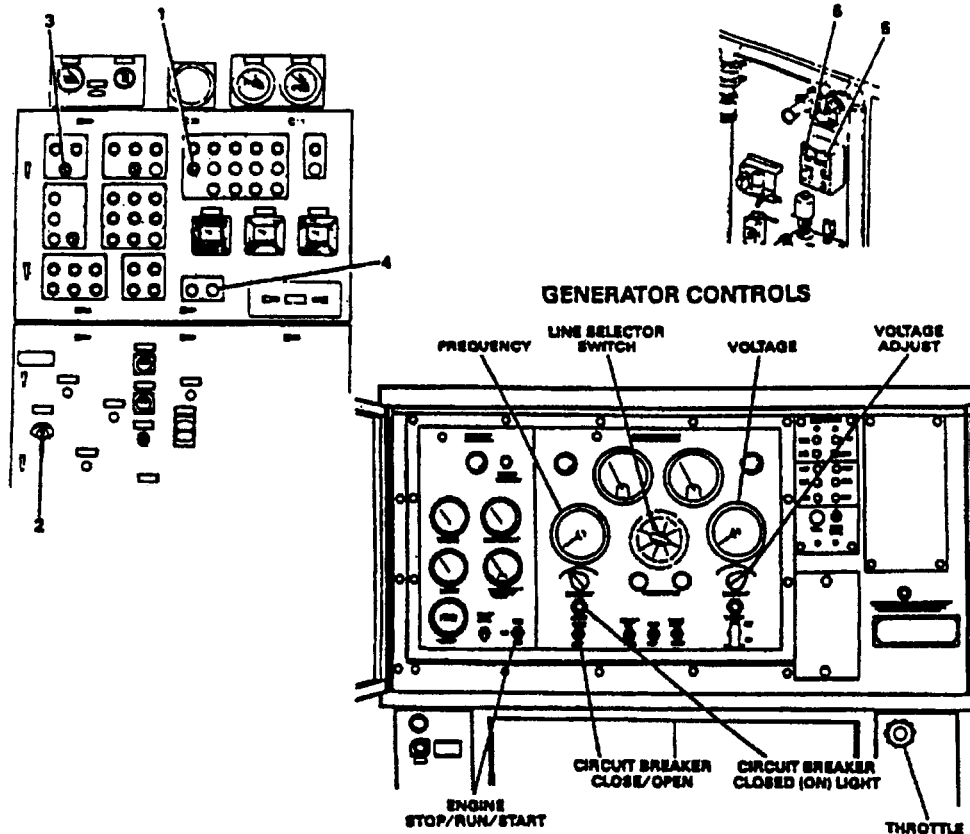
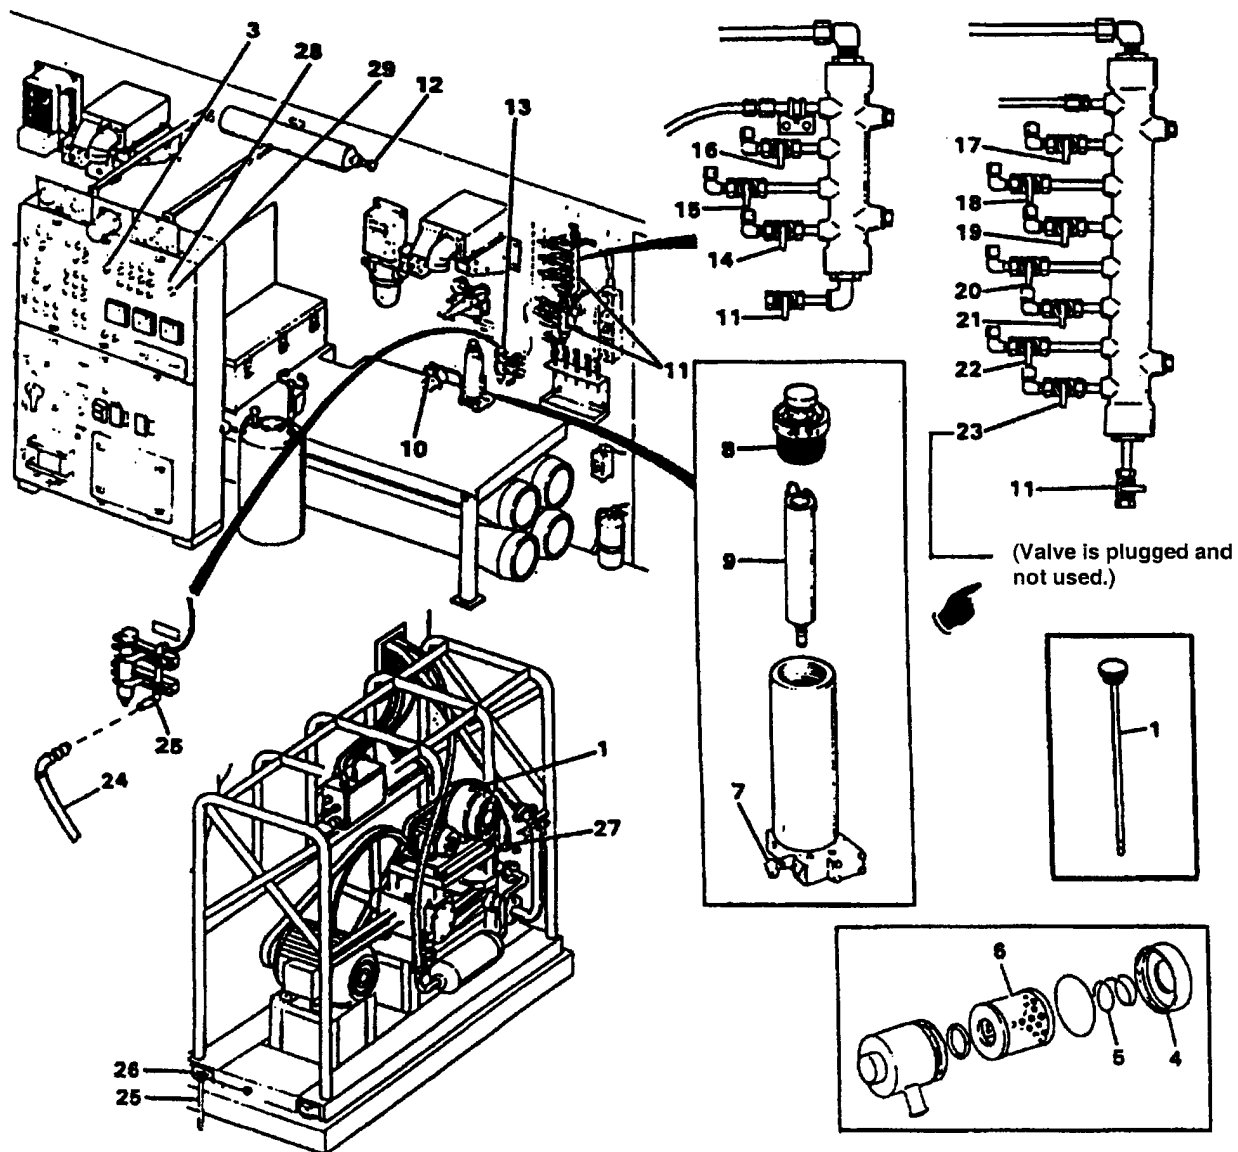

Figure 2-33. Establishing Electrical Power
Figure 2-34. Ready Air System
- (1) See Figure 2-33 and establish electrical power as follows:
- (j) Check that main control panel SYSTEM MODE switch (3) is in SYSTEM ON.
- (k) Turn main control panel MAIN CIRCUIT BREAKER (2) to ON. PANEL ENERGIZED light (28) must be lit, if not pull out EMERGENCY STOP (29) (Figure 2-34).
- (l) Push SYSTEM RESET pushbutton (4) (Figure 2-33).
- (m) Turn on lights with pushbutton (5).
- (n) Open fan shutter and turn on vent fan with on/off switch (6).
- (2) Prepare air system (Figure 2-34).
- (h) Air storage valve (12) open.
- (i) Air dryer valve (13) closed.
- (j) Media filter air purge block valve (14) closed.
- (l) Turn COMPRESSOR OFF/ON switch (3) ON. Notify unit maintenance if compressor malfunctions.
- (5) Make sure all vent, drain, and sample valves listed in Table 2-15 are closed.
- (6) Make sure manual valves are positioned as listed in Table 2-16.
- (7) Remove utility air hose (24) from storage box 2 (43, Figure 2-24) and connect utility air hose to utility air connection (25, Figure 2-34) to stabilizers (26). Use utility air hose and fill stabilizers 26 to 30 psi (207 kPa) and use tire pressure gage to check pressure.